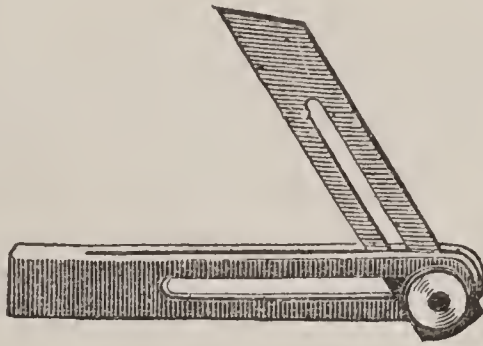

FIGURE 3.
*Bevel.*—Bevels for ascertaining and forming surfaces, not at a right angle with some certain line, can be had from one dollar upward in price. The four inch is very good size. The blade is held in position by a screw, which forms part of the joint on which the blade turns. Shown in Fig. 3.